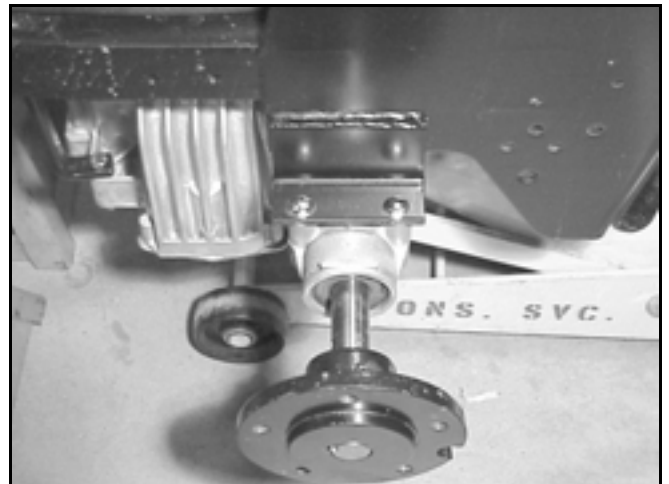

Figure 126
11. Use a floor jack under the transaxle to help lower the transaxle from the frame of the tractor (Figure 126).